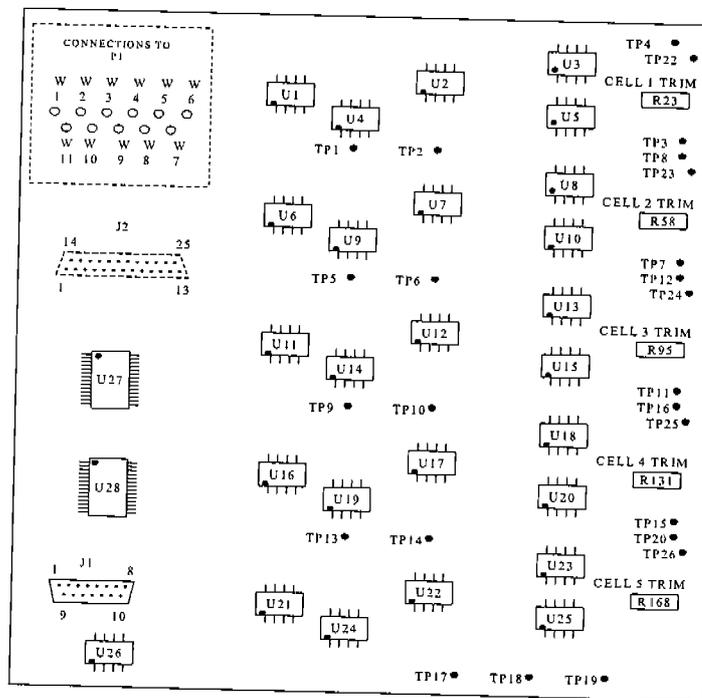

Figure 6-2 Control PCB Layout (Component Side)
- 6.3.8.8 Adjust the Cell 1 "trim pot" on the Shunt Module control board until the Battery Simulator current is between 0.30 +/- .01 amps as indicated on the Panel Meter. See Figure 6-2 for location of the trim pots.